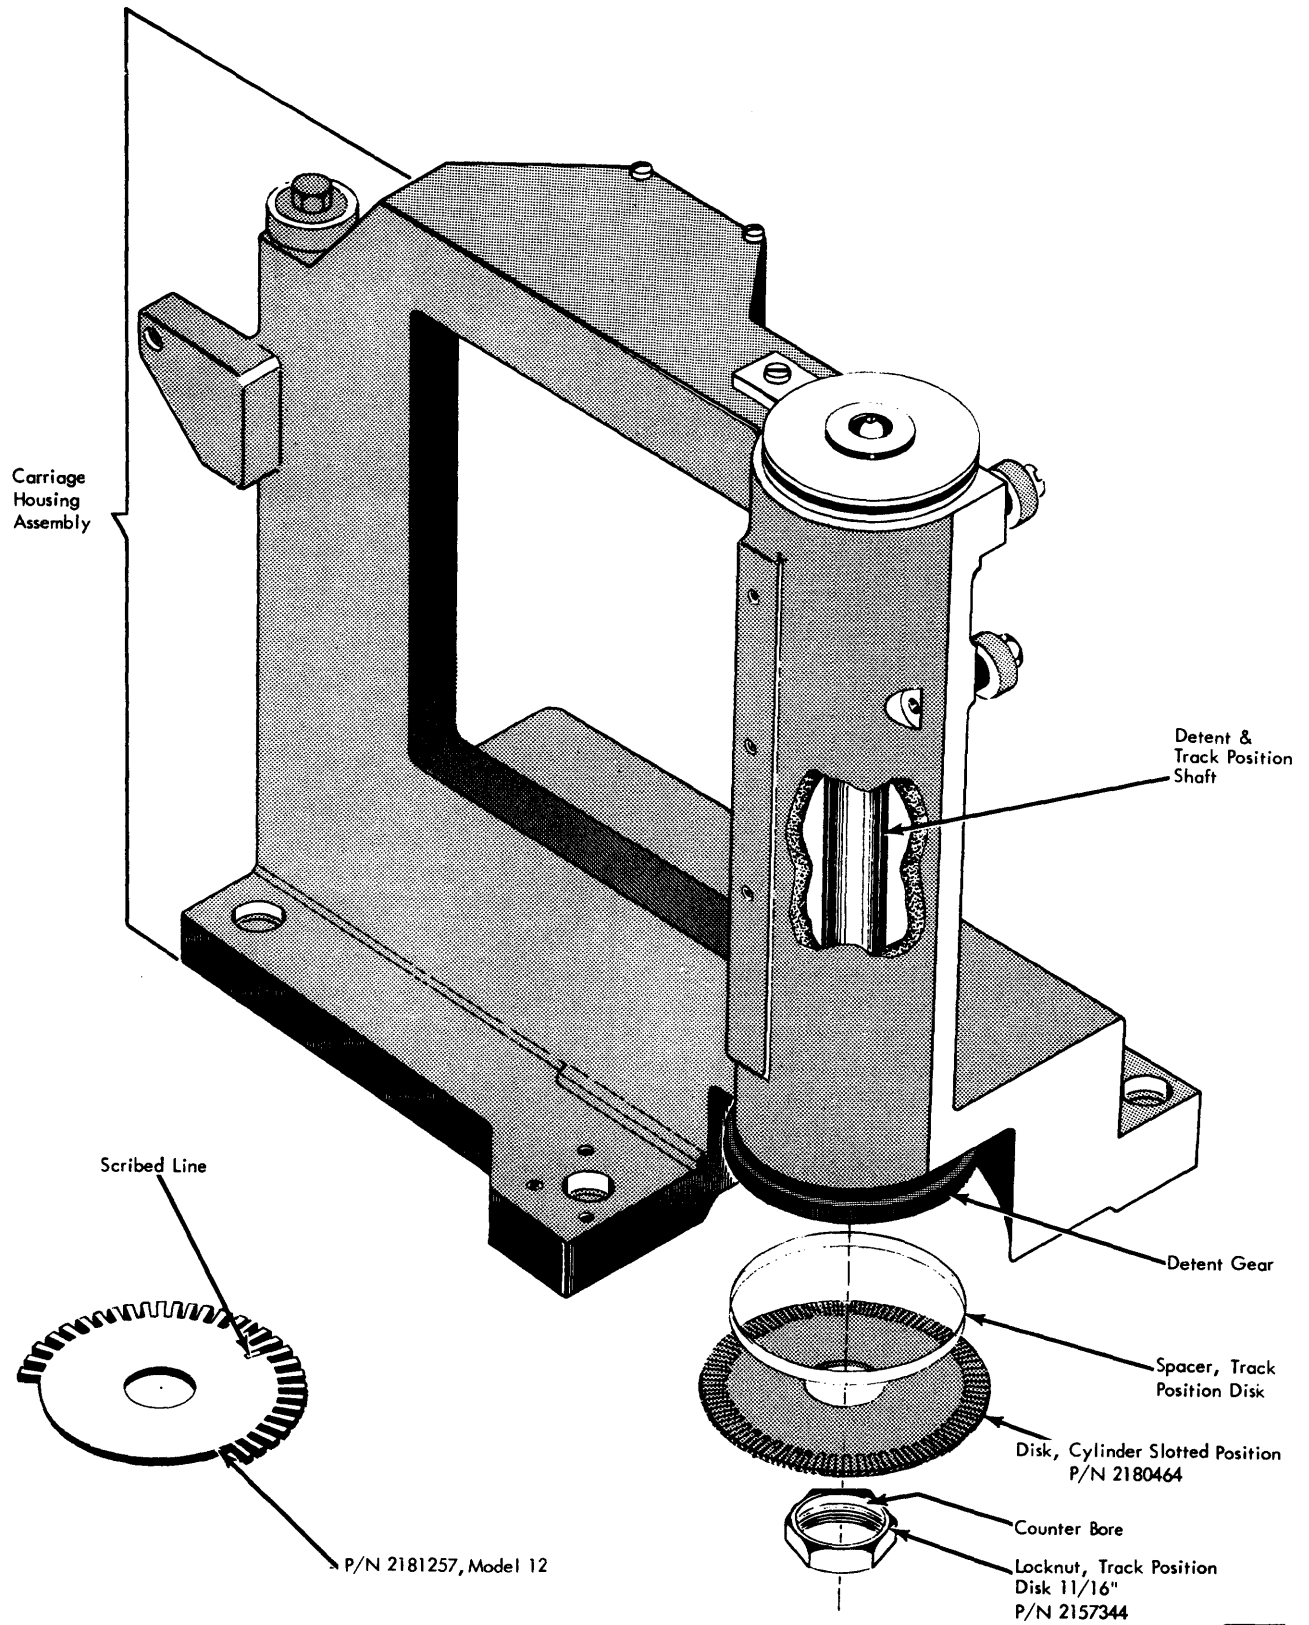

Figure 4-16. Carriage Housing Assembly
7. Remove slotted disk by removing single nut holding it to the detent and track position shaft. Use 11/16" wrench P/N 2244061 or equivalent (Figure 4-16).
9. Install new slotted disk, P/N 2180464 (P/N 2181257, model 12) on detent and track position shaft (scribed line facing up). Install nut P/N 2157344 (Figure 4-16) with counterbored side up, but do not tighten down at this time.